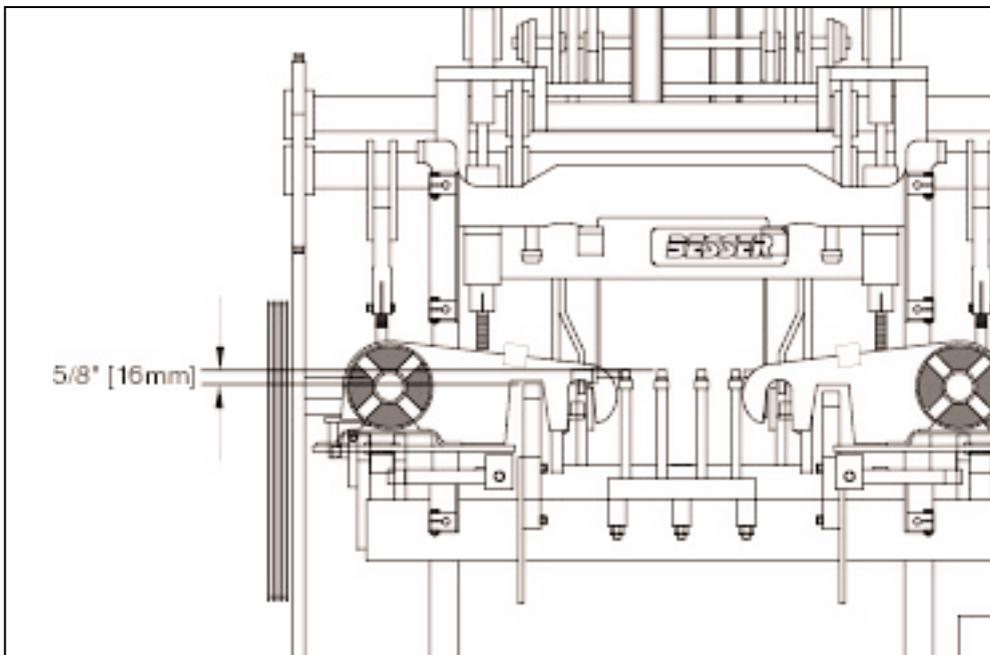

Figure 4.29 PALLET RECEIVER RUBBERS POSITION.
4.2.6 Adjust the pallet receiver frame so that the pallet receiver rubbers are 5/8" [16mm] above the mold throat (see figure 4.29).